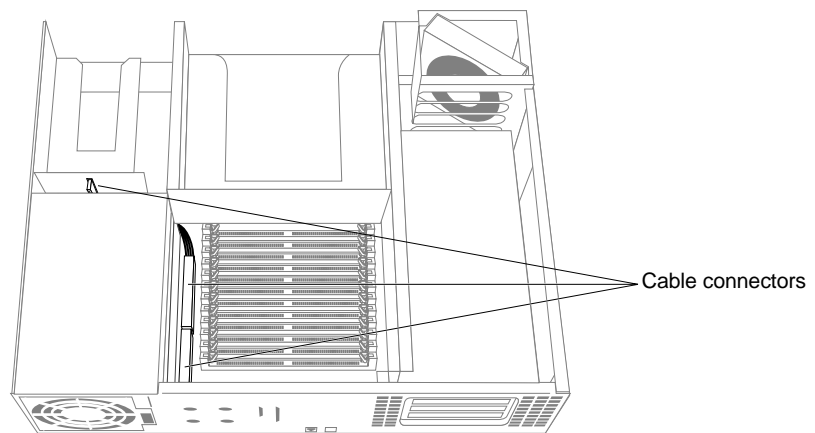

Figure 2-4 Locating the Three Power Supply Cable Connectors
6. Move the workstation, or position yourself so that you are facing the back of the workstation, as shown in Figure 2-4.
7. Disconnect the three power cable connectors, as shown in Figure 2-4.